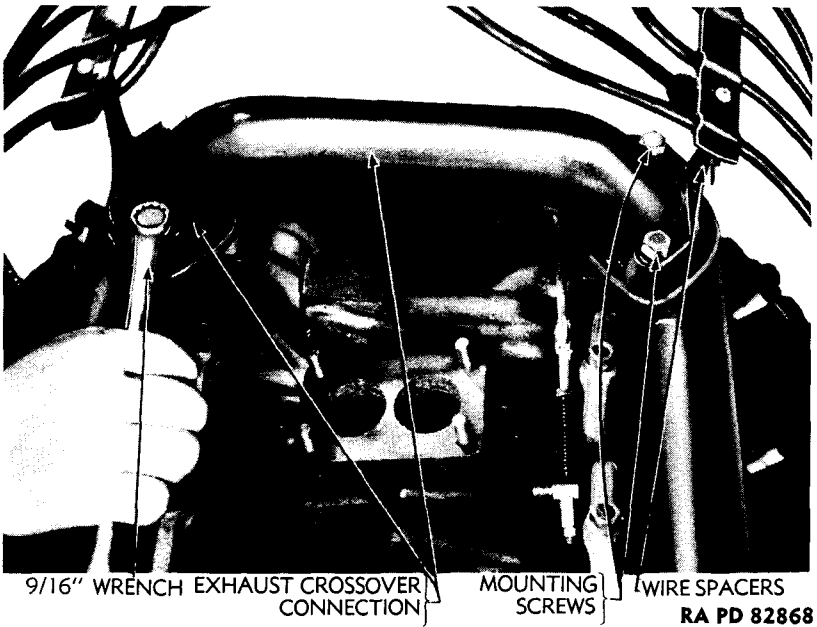

Figure 34 – Removing Exhaust Manifold Crossover
(2) **REMOVE UPPER REAR RELAY CROSS SHAFT.** See paragraph 61 b (17).
(5) **REMOVE EXHAUST MANIFOLDS AND CROSSOVER.** Remove exhaust manifold crossover and gaskets by taking out four screws (fig. 34). **NOTE:** *Spark plug wire supports come off with this connection.* Disconnect exhaust manifold from muffler inlet pipe. Remove gasket. Remove eight nuts holding exhaust manifold clamps to